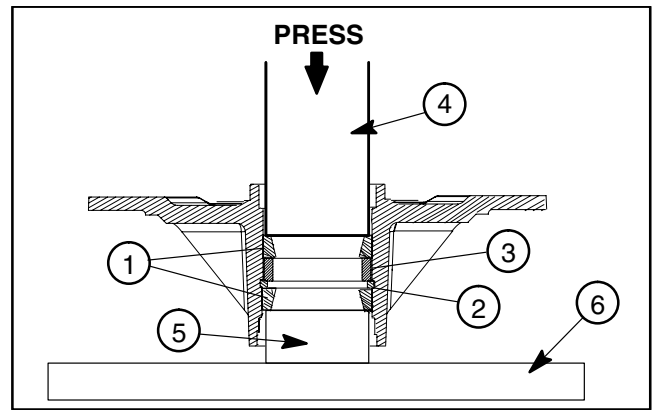

Figure 32
3. Thoroughly oil the bearing cups. Using an arbor press, push the bearing cups into the top and bottom of the spindle housing. The top bearing cup must contact the spacer previously installed, and the bottom bearing cup must contact the snap ring. Make sure that the assembly is correct by supporting the first bearing cup and pressing the second against it (Fig 32).
9. Install seal spacer with chamfer side down (Fig. 32).